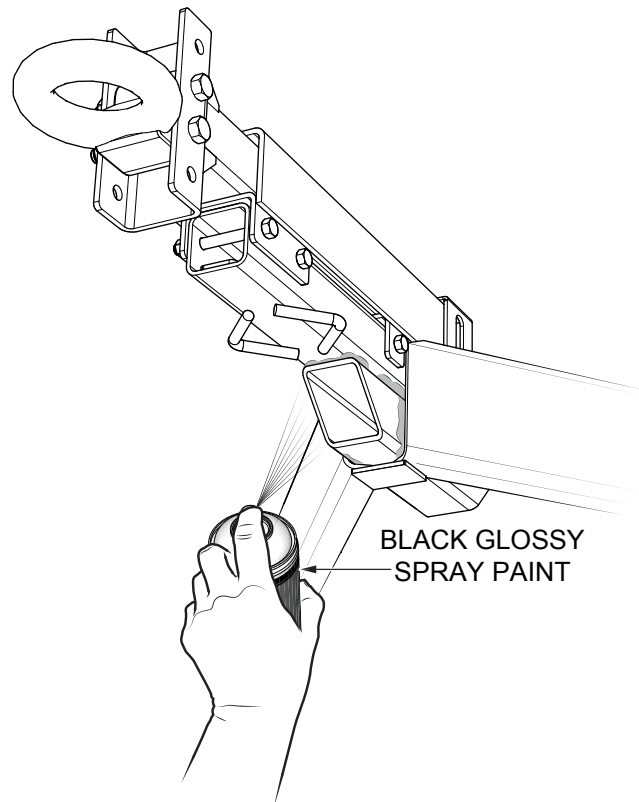

Figure 7. Painting Welding Area
1. Clean all welding areas on the trailer frame with a wire brush, then paint area with **black glossy spray paint** (Figure 7).